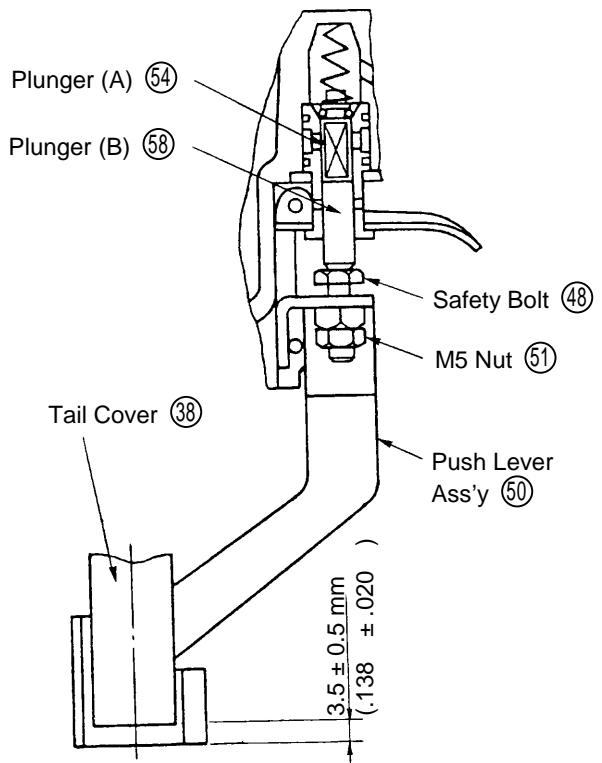

Fig. 14 Push lever assembly adjustment
- Be very careful in handling the Plunger Spring ⑤2, as it can become twisted very easily.
- To prevent the two O-Rings on the outside of the Valve Bushing ⑤5 from being damaged when inserted into the Body, carefully apply grease to the Body hole and the outer circumference of the O-Rings prior to assembly.
(c) Adjustment of the Push Lever Ass'y ⑤0 (see Fig. 14):
- The Push Lever Ass'y ⑤0 can be adjusted by loosening the M5 Nut ⑤1 and turning the Safety Bolt ④8.
- Perform adjustment to a point where the resistance of Plunger (B) ⑤8 pushing up Plunger (A) ⑤4 is felt when the Push Lever Ass'y is raised. At this point, the lower end of the Tail Cover ③8 should be separated from the lower end of the Push Lever Ass'y by 3.5 mm \pm 0.5 mm (.138" \pm .020").